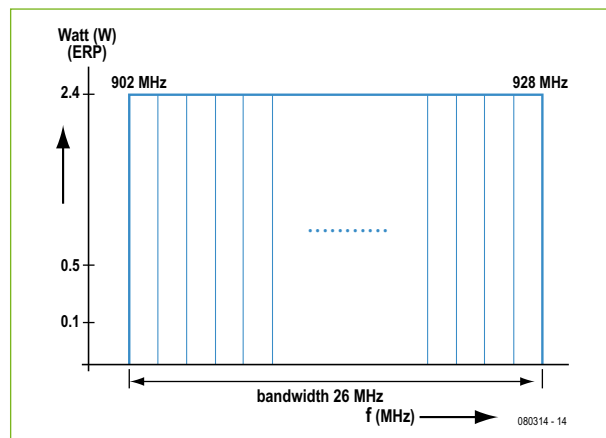

Figure 6. RFID frequency allocation for Region 2 (chiefly USA).
- Region 2 includes North America, South America and the Pacific Region east of the dateline — see **Figure 6**;